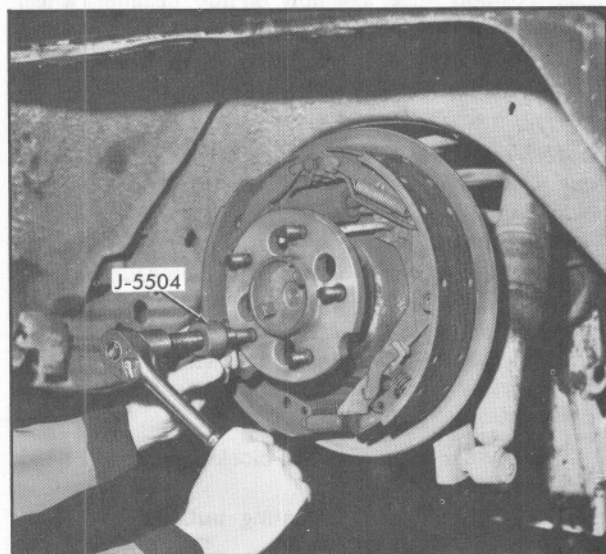

Fig. 4-1 Removing Stud (C-Car Rear)
7. Install tool J-5504 on damaged stud and press stud from axle shaft flange, Fig. 4-1.